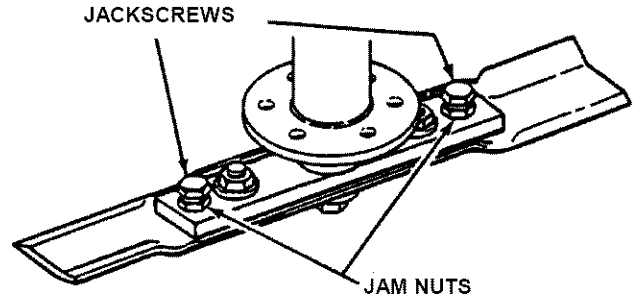

FIGURE 4.6
- b. Adjust jack screws "IN" or "OUT" until blade tip measurements are within  $\frac{1}{16}$ " of each other and blade tips are  $\frac{3}{8}$ " away from deck lip. See Figure 4.6.